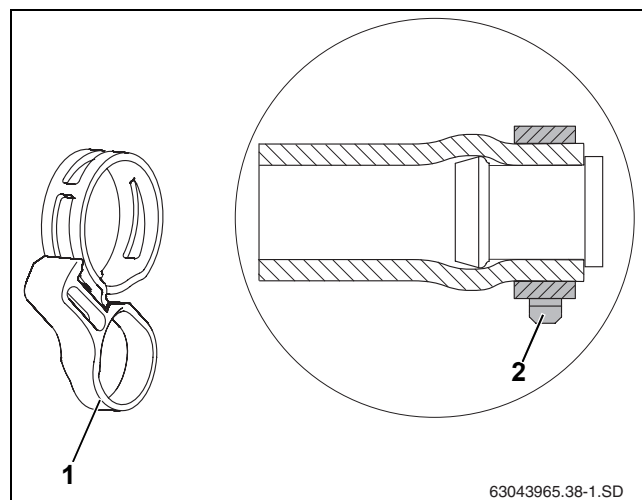

Fig. 34 Hose clip with locking ring fixed to the pre-assembled dummy plug
- ▶ It is very important that the hose clip is positioned correctly before removing the locking ring (Fig. 34, itm 1 and 2). Subsequent loosening using pliers can impair resilience.